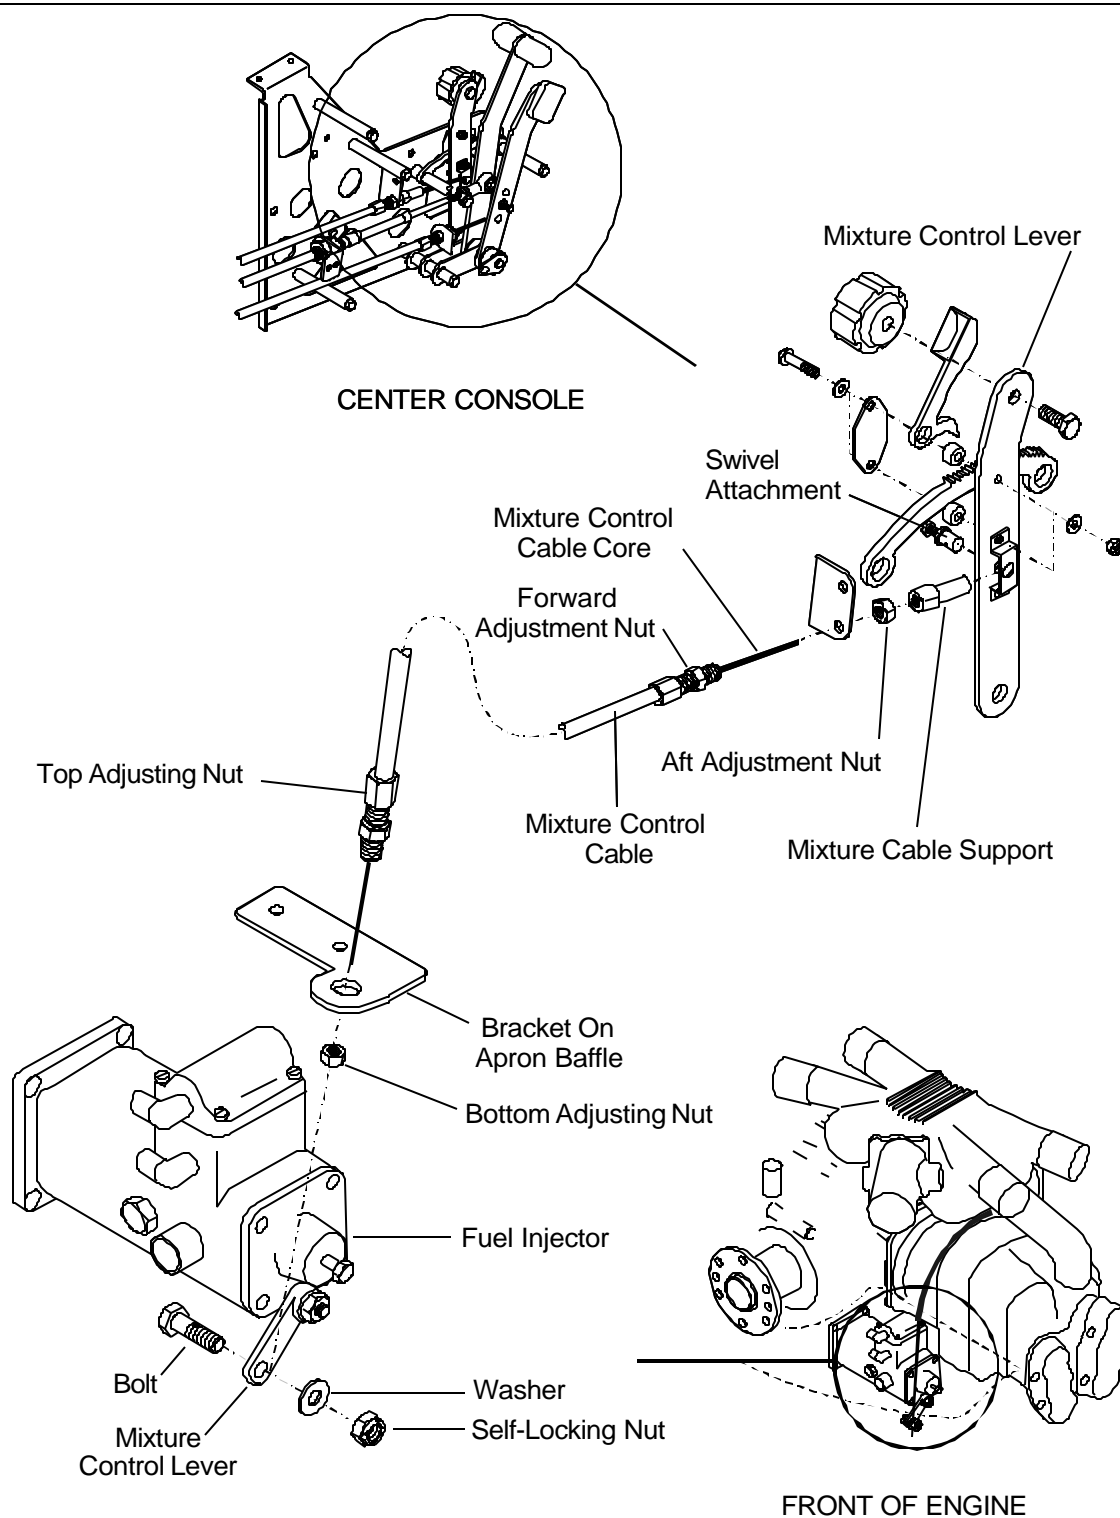

Figure 1
- 10.4** Disconnect the cable core end of the mixture cable from the mixture lever by loosening the swivel attachment (see figure 1).
- 10.6** Install mixture control cable support over cable core end, threaded end first (see figure 1).